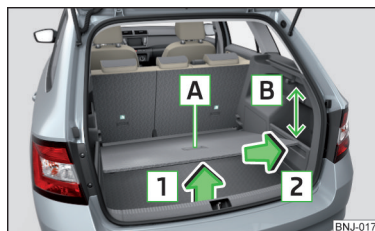

Fig. 108
- Grasp the variable loading floor at handle **A** » Fig. 108.
- When removing or inserting the variable loading floor, a distance of 15 cm **B** » Fig. 108 underneath the edge of the foldable cover must be adhered to - risk of damaging the boot lid seal.